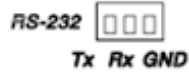

**Figure 3-5**
To transmit RS-232 data, connect data source to the terminal block shown in Figure 3-5.
2. Connect the other end of this cable to the rear panel data terminal block connector on the LBC-H/V-T-WP (see Figure 3-5) per the pin out diagram in Figure 3-6.